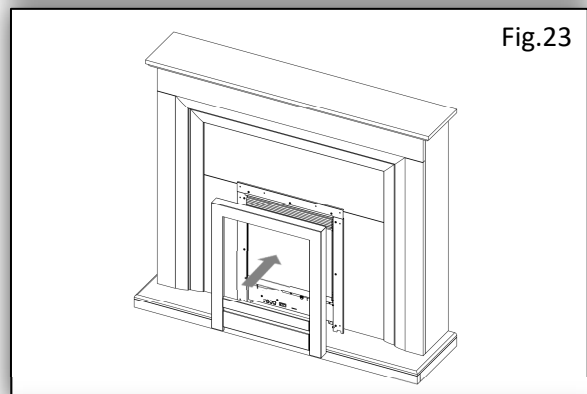

Fig.23
36. Screw the back panel clamp bracket to the top of the Fire (J) using 3x 10mm dome head screws supplied with the Fire (J). See Fig.23.
There are three mounting positions dependent on the back panel thickness. The middle fixing point is suitable for 18mm back panel thicknesses. See Fig.23.
44. Place the Fire Trim (K) over the Fire (J), allowing the magnets to contact the fire body, securing the trim in place. Fig.23.